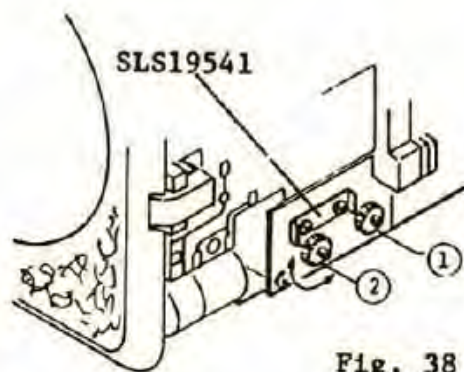

Fig. 38
- b. Release SLS19541 Stop spring (2) on the gear of 2nd curtain spring drum by tweezers as shown in Fig. 38.